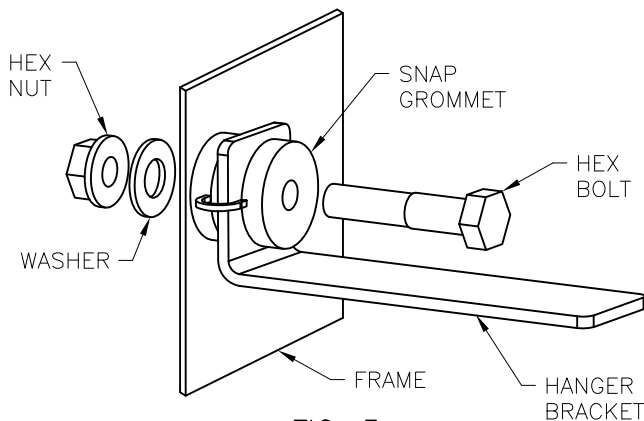

FIG. 3
**Step 2:** Begin installation of the new system by fitting the new mufflers, tailpipes and Tru-X crossover assembly into place for a mock-up fitment, as shown to the left. This will help to determine where to drill the frame or floorboards for the muffler and tailpipe mounting brackets as shown in Figures 1 & 3, if the OEM mounting points will not work. Sheet metal screws are supplied to be used in place of the hex-head bolts if required. Use a 1/2" drill bit for the bolt/nut combo, or use a 5/16" drill bit for the tri-lobular sheet metal screws. You should now also be able to determine where to trim and or modify the inlet extension pipes if needed. With the system loosely installed, adjust the components for at least 1/2" clearance, including areas with moving parts (axles, driveshaft, etc.). Once a proper fit for the complete system has been achieved using the supplied clamps, the inlet pipes can be welded to the manifolds or headers. Once the tailpipe brackets are bolted in place as shown in Figure 3, they can be bent and welded to the tailpipes. The supplied turndown tips can be welded to the tailpipe to dump behind the bumper, or the tailpipe extensions can be used with or without the OEM tips to go through the bumper for an original look.